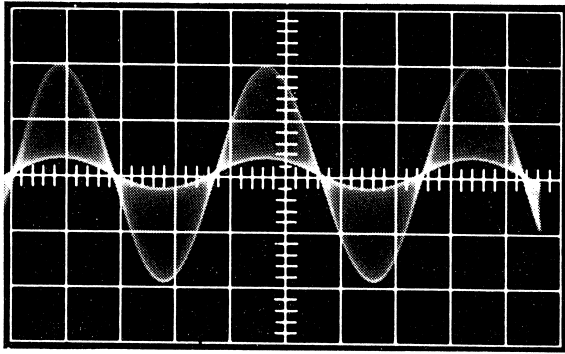
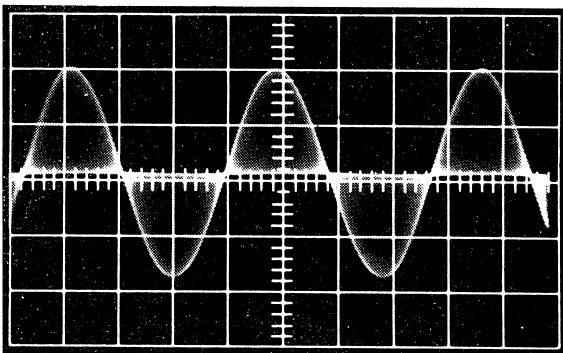
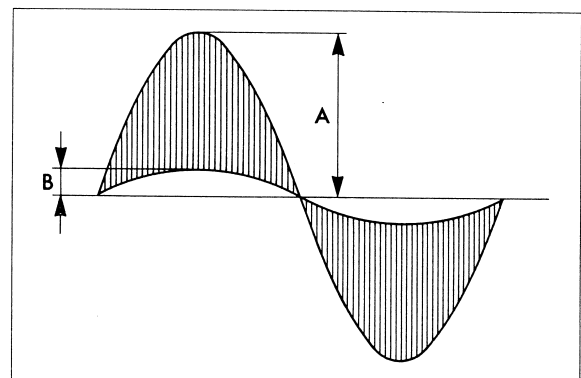

Fig.11. Scope view shows MS amplitude unbalance. (Measured on discriminator output).
Fig.13. Waveform for an L or R signal as viewed on COMPOSITE OUTPUT, without pilot signal.
Fig.14. Calculation of MS Identity Factor equal to LR Separation (after decoding).
4) The scope will now show a picture as in Fig.11 or 12.
Fig.13 shows the ideal case with perfect M and S channel identity. In practice, however, scope views as in Fig.11 and 12 will be obtained.
Fig.11 shows MS amplitude unbalance (the S channel amplitude is too low). From this picture the MS Identity Factor equal to the LR Separation (after demodulation in an ideal multiplex decoder) can be calculated as shown in Fig.14.